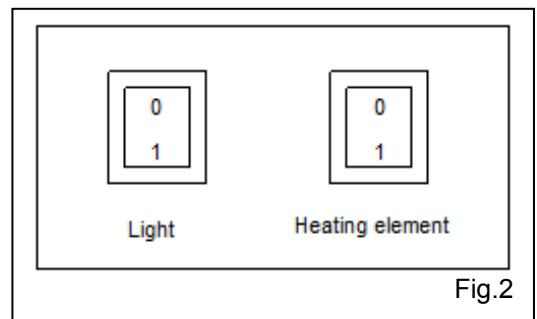

Fig.2
3.3 Operation of the upper heating element (fig.2)